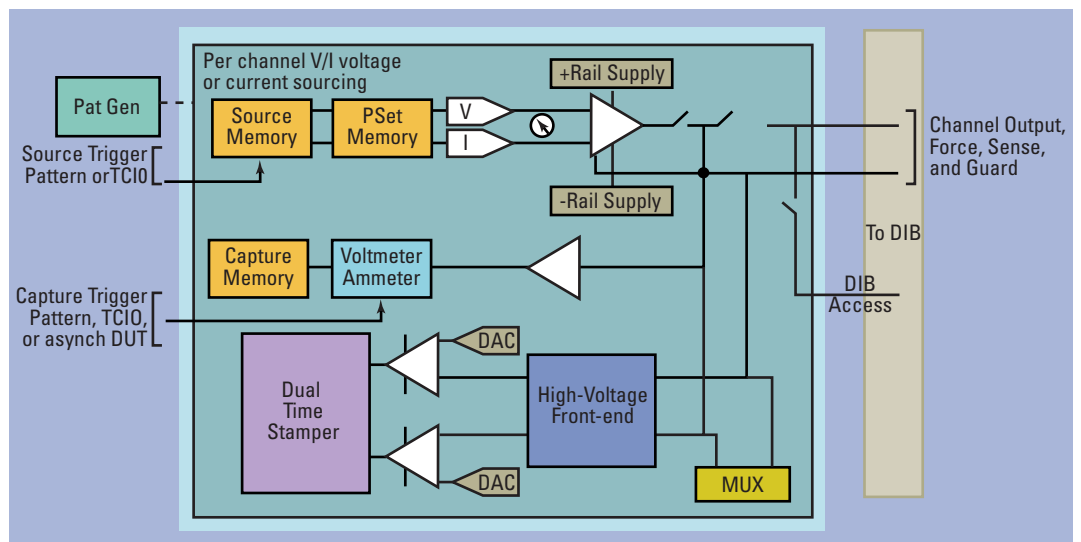

Figure 5-11: DC90 instrument block diagram
The DC90 instrument is a four (4) channel V/I, each of which has a 4K sample Arbitrary Waveform Generator (AWG) for voltage or current output, and its own meter with 4K sample capture memory. The DC90 channels are independently isolated and floating. There are High Voltage Front-end subsystems on the instrument, as well as two (2), Dual Time Stampers. Rail power supplies can be set for symmetric or asymmetric rail voltages up to 180 V. Two DC90 instruments can be connected in series for a total output voltage of 250 V. Table 5-4 summarizes the key DC90 instrument specifications. Figure 5-11 depicts a block diagram of the DC90 instrument. Figure 5-12 depicts the compliance points of the DC90 instrument.